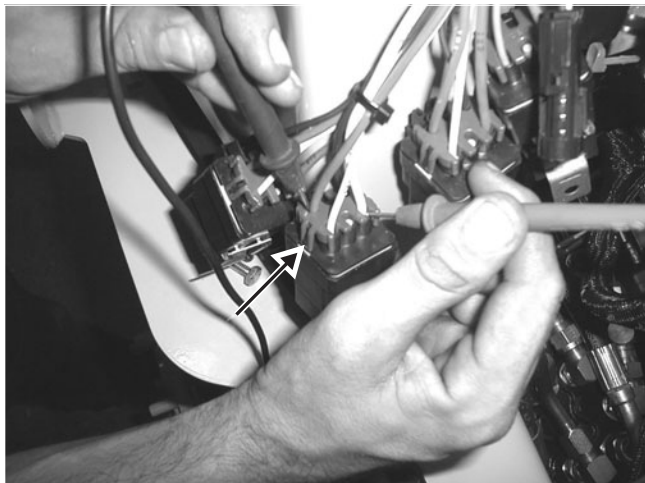

Fig. 9-8 Continuity test on the interlock relays with a multimeter.
4. Using a volt/ohm multi-meter, confirm following conditions with wiring plug connected to relay. An assistant should be in operator's seat with restraint bar down: **Figs. 9-8, 9-9**